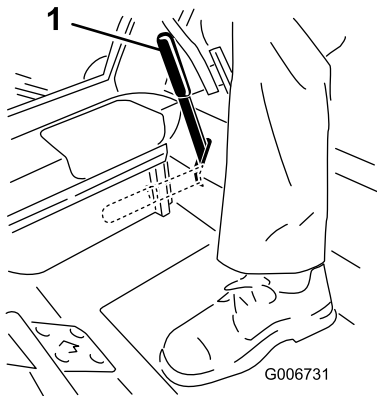

Figure 10
2. Pull up and back on the parking brake lever to set the parking brake (Figure 10). The parking brake lever should stay firmly in the engaged position.
Push forward and down on the parking brake lever to release the parking brake (Figure 10).